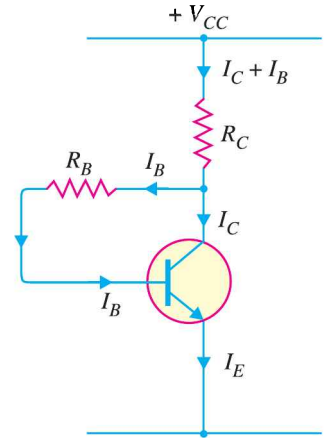

Fig. 9.19
In this method, one end of R_B is connected to the base and the other end to the collector as shown in Fig. 9.19. Here, the required zero signal base current is determined *not* by V_{CC} but by the collector-base voltage V_{CB} . It is clear that V_{CB} forward biases the base-emitter junction and hence base current I_B flows through R_B . This causes the zero signal collector current to flow in the circuit.
Circuit analysis. The required value of R_B needed to give the zero signal current I_C can be determined as follows. Referring to Fig. 9.19,
Note. It can be easily proved (See **example 9.17) that Q-point values (I_C and V_{CE}) for the circuit shown in Fig. 9.19 are given by ;
** Put $R_E = 0$ for the expression of I_C in example 9.17. It is because in the present circuit (Fig. 9.19), there is no R_E .